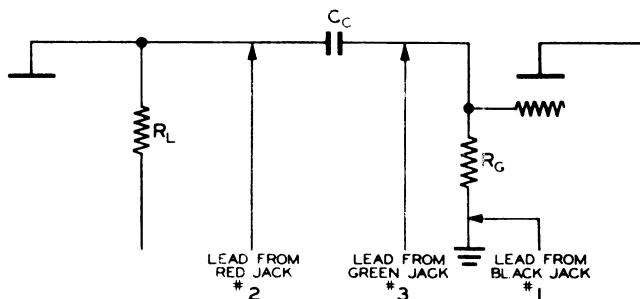

FIGURE 2. CONNECTIONS FOR MEASUREMENTS OF COUPLING CAPACITORS IN-CIRCUIT
Figure 2 shows how the three leads are to be connected in a coupling capacitor circuit when the coupling capacitor is to be tested in-circuit. This is the only place where all three leads will be used. In all other cases, the red and green test leads will be used and the black test lead should be disconnected from the Capacohmeter.
6. Separate the red and green test leads. If it is a coupling capacitor in-circuit, connect the red test lead on the input side of the capacitor and the green test lead on the side of the capacitor; then connect the black test lead to the circuit ground. See figure 2 for these connections.